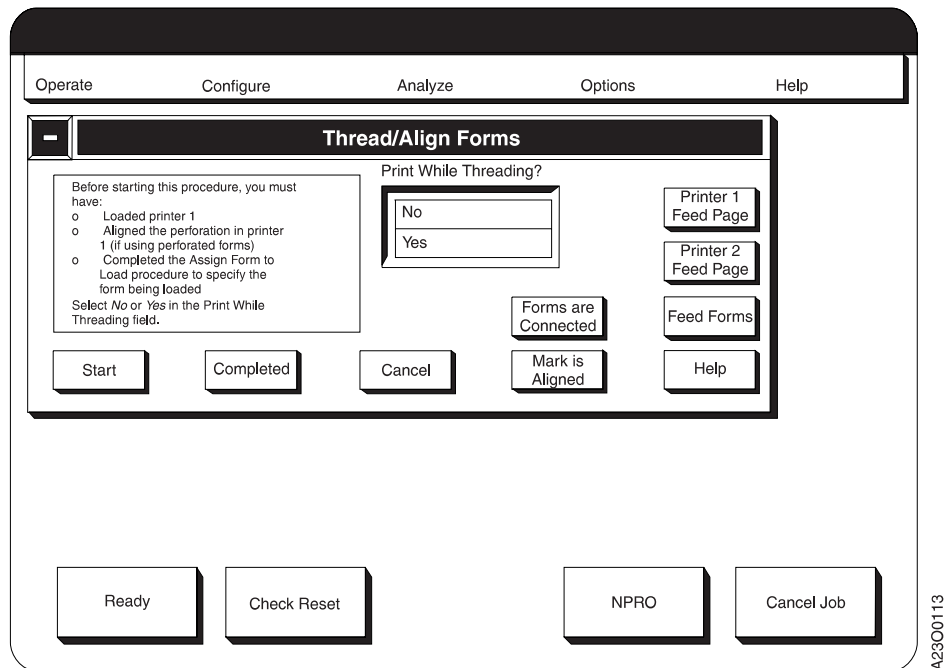

Figure 5-2. Main Thread/Align Forms Window
3. **SELECT** the **OK** pushbutton on the window. The main **Thread/Align Forms** procedure window (Figure 5-2) appears.